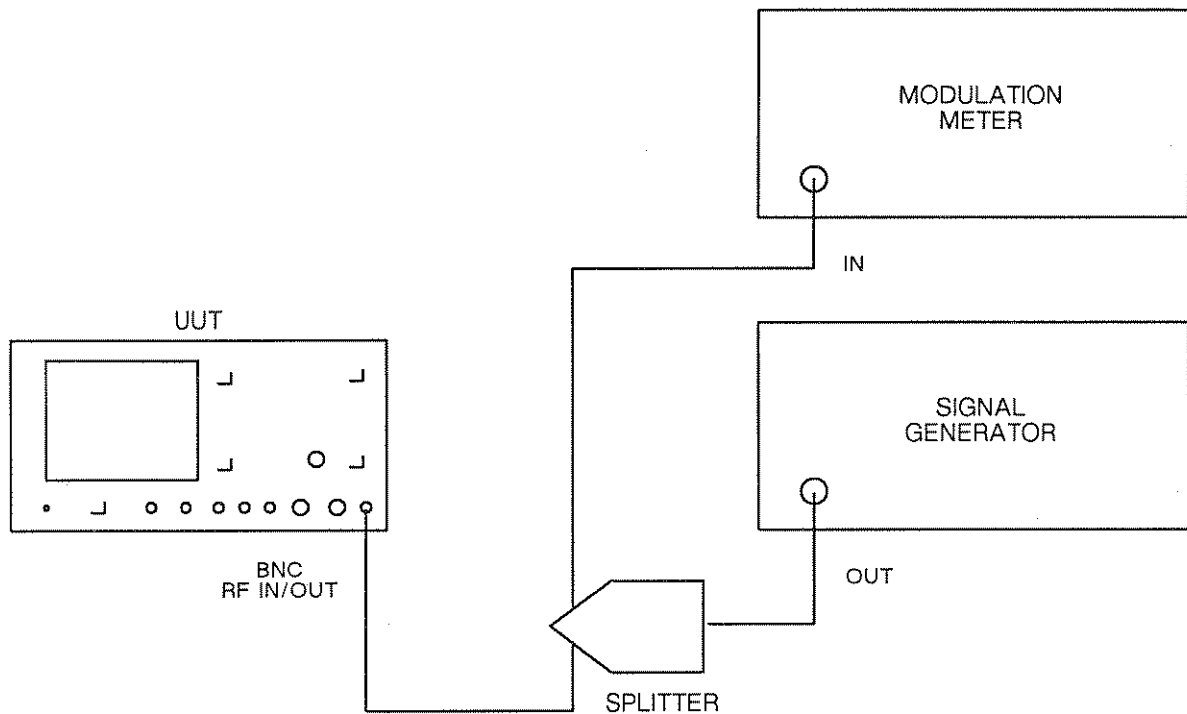

Fig. 5-2 Test equipment connections for oscilloscope demodulated FM gain
- (1) Connect the equipment as shown in Fig. 5-2.
- (2) Set the UUT to TX, FM, SCOPE, 0.3 to 3.4 kHz BAND PASS filter, BNC input socket.
- (2) Set the UUT to TX, AM, SCOPE, 0.3 to 3.4 kHz BAND PASS filter, BNC input socket.
- (3) Set the signal generator to carrier frequency 100 MHz, level 7 dBm, AM, 1 kHz internal modulation rate.
- (4) Set the modulation meter to monitor AM, (pk-pk)/2, in a 0.3 to 3.4 kHz bandwidth.
- (5) Set the UUT oscilloscope range to 20%/div. Adjust the signal generator depth until the waveform on the oscilloscope is shown as 80%. Check on the modulation meter that the depth limits are within 72 to 88%.
- (6) Repeat step (5) above for the remaining oscilloscope ranges and modulation depths shown in Table 5-3.